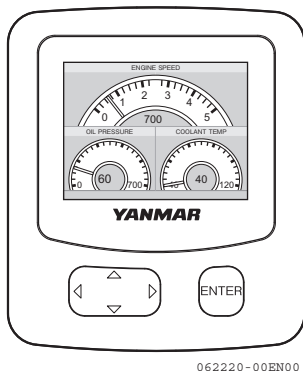

Figure 11
- When the engine starts, the VC10 display will show the screen with engine conditions (**Figure 11**).